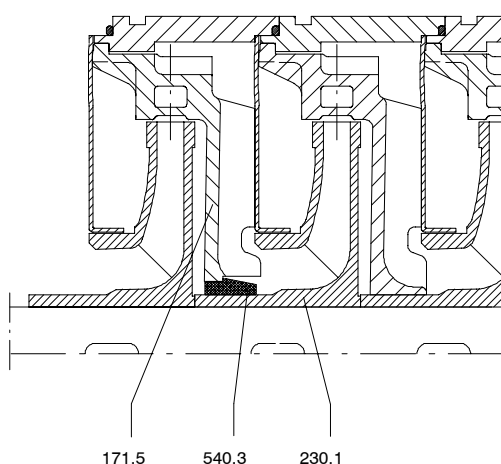

Fig. 36
**Note:** Pump versions A/B/C/D in material variants 22/23/30 have an intermediate bearing in the middle stage as of the number of stages given in the table (see fig. 36).